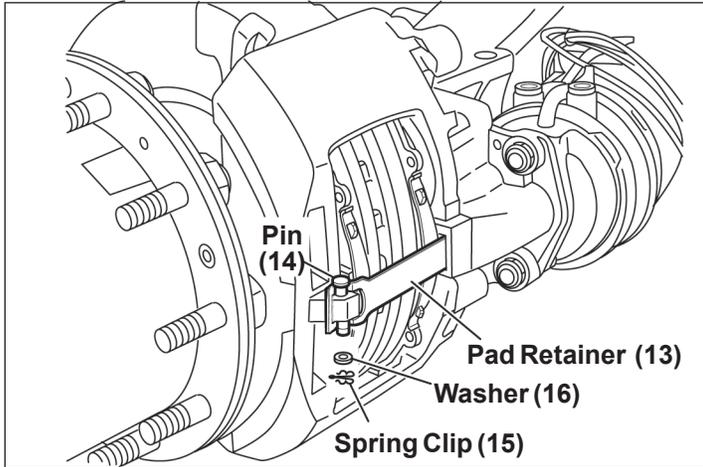

Figure 21 - Brake Pad Installation
Install the supplied washer (16) and spring clip (15) to the pad retainer pin (14). It is recommended that the pad retainer pin (14) be installed pointing downwards (see Figure 21).